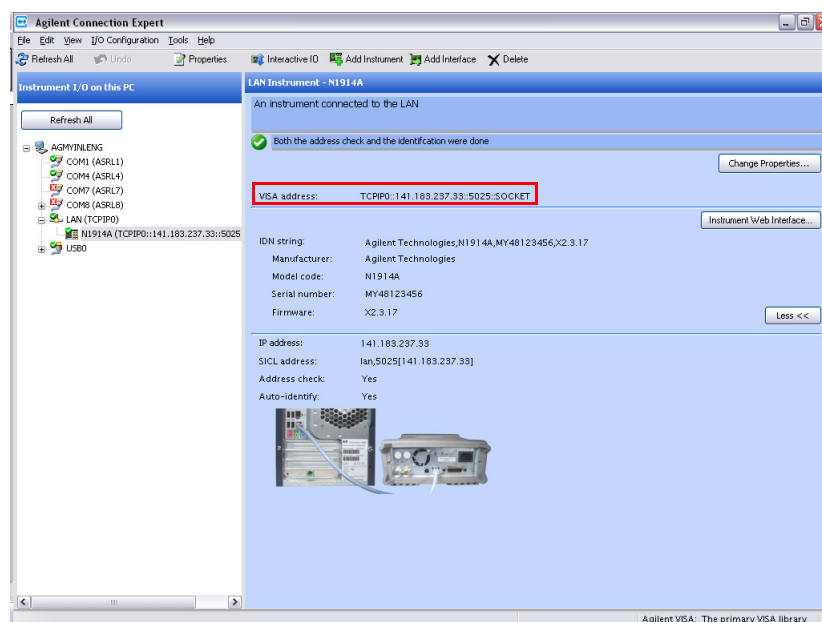

Figure 1-13 N1914A meter connected via socket connection
- 6 Click **OK**. You will then return to the Keysight Connection Expert window (see Figure 1-13). Your meter is successfully connected via socket connection.